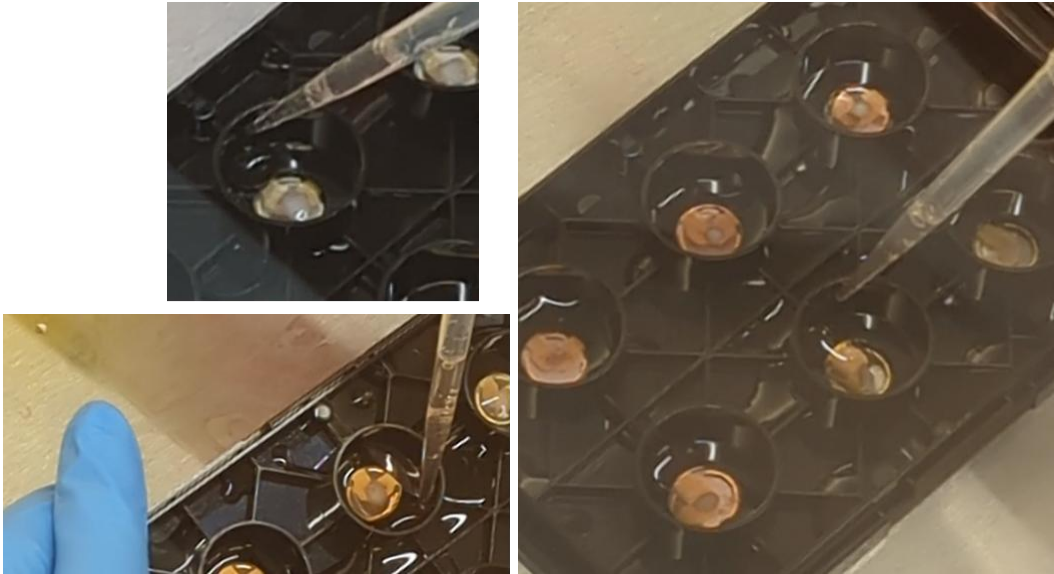

Figure 6. Media addition
11. After 30 minutes, transfer the plate back to the biosafety cabinet, and add half volumes of media to each side of each well (**Figure 6**). If this is a 6-well plate, use 500 μ L on either side, paying careful attention to add the media to the wall of the conical feature in the well, allowing the media to gently flow into the well and not disturb the organoids. The plate may be tilted at this stage to assist in media addition.